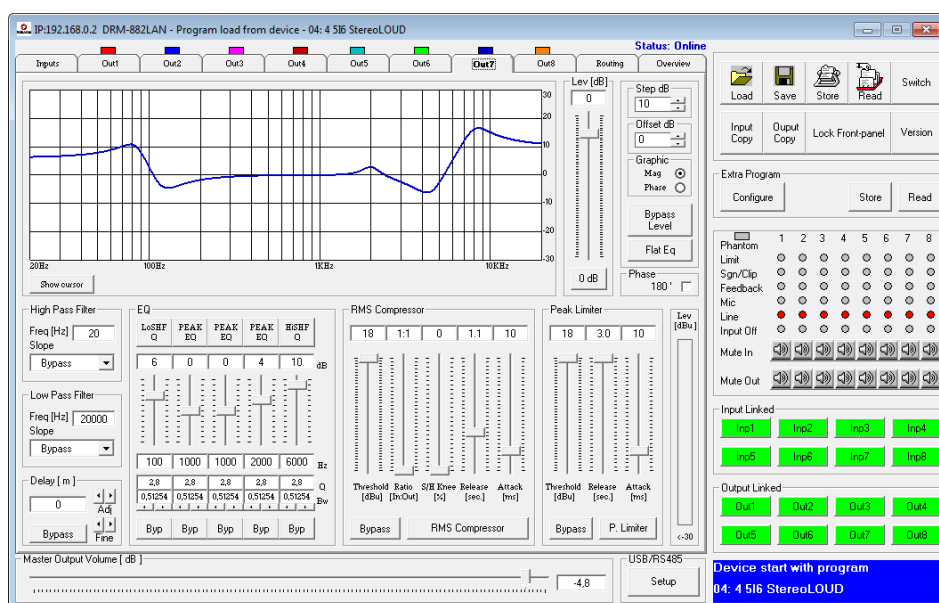
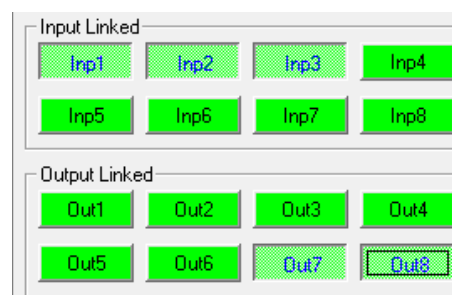

Fig. 27 View of output channel "Out7"
Fig. 32 Linkage of inputs and outputs
In the view of an output (e.g. "Out7", fig. 27), under "Delay", set the delay for the output signal. The unit (meter or milliseconds) can be changed in the view "Overview" (chapter 6.3.1).
In the view of an output (e.g. "Out7", fig. 27), under "High Pass Filter" and "Low Pass Filter", set the high pass filter and low pass filter desired.
For the equalization of the individual outputs, five independent filters are provided. Set these filters in the view of an output (e.g. "Out7", fig. 27) under "EQ". The procedure for setting the equalization filters is identical to that for setting the input channel filters (chapter 6.4.7).
In the view of an output (e.g. "Out7", fig. 27), under "RMS Compressor", set the parameters for the compressor. To change a parameter, move the corresponding slider by means of the mouse, or (with the slider selected) use the arrow keys or the "Pg Up" or "Pg Down" keys on the keyboard.
In the view of an output (e.g. "Out7", fig. 27), under "Lev [dB]", set the gain, i.e. the output level (between -127 ... +18 dB). To change the gain, move the slider by means of the mouse, or (with the slider selected) use the arrow keys or the "Pg Up" or "Pg Down" keys on the keyboard. To quickly reset the gain to 0 dB, click the button "0 dB" beneath the slider.
In the view of an output (e.g. "Out7", fig. 27), under "Peak Limiter", adjust the parameters for the limiter. To change a parameter, move the slider by means of the mouse, or (with the slider selected) use the arrow keys or the "Pg Up" or "Pg Down" keys on the keyboard.
- 1) On the right-hand side of the window, under "Input Linked" (fig. 32), click the buttons of all the inputs whose parameters are to be adjusted to the same value. The buttons appear to be "pressed" and the colour of their marking changes to blue.
- 1) On the right-hand side of the window, under "Output Linked" (fig. 32), click the buttons of all the outputs whose parameters are to be adjusted to the same value. If a view for a specific output (fig. 27) is being displayed, click the button for this output as well. The buttons appear to be "pressed" and the colour of their marking changes to blue.